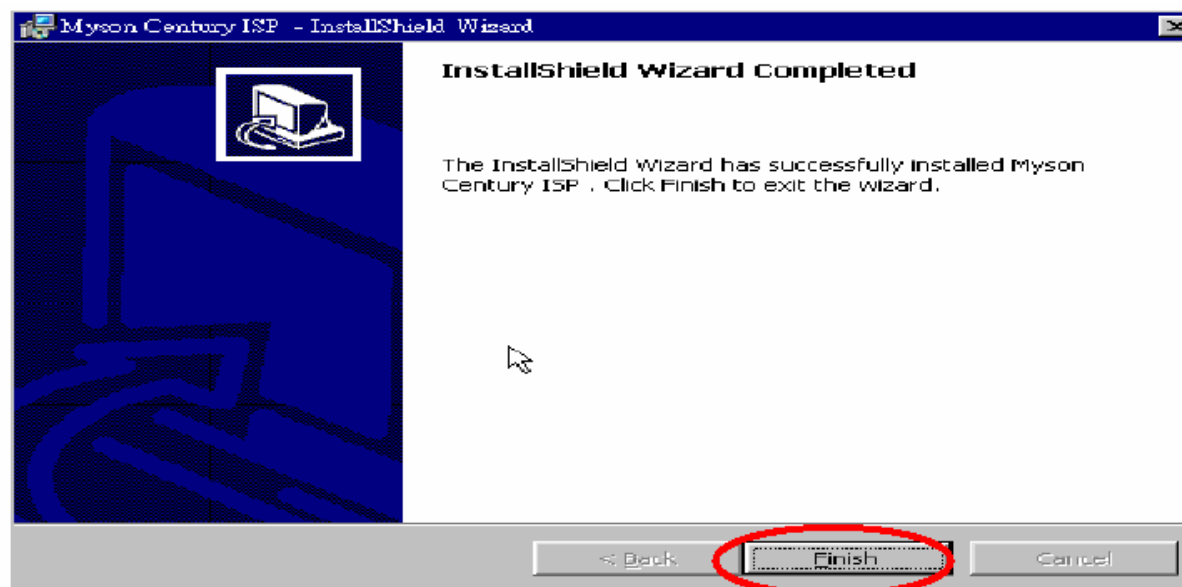

Fig. 1.7
1.7 Installation has finished , press “Finish “button , see Fig 1.7 .